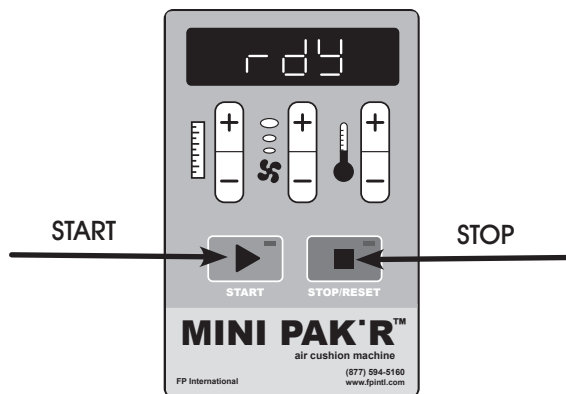

Figure 9
7. Press Start Button to begin making Air Cushions. (See Figure 9)